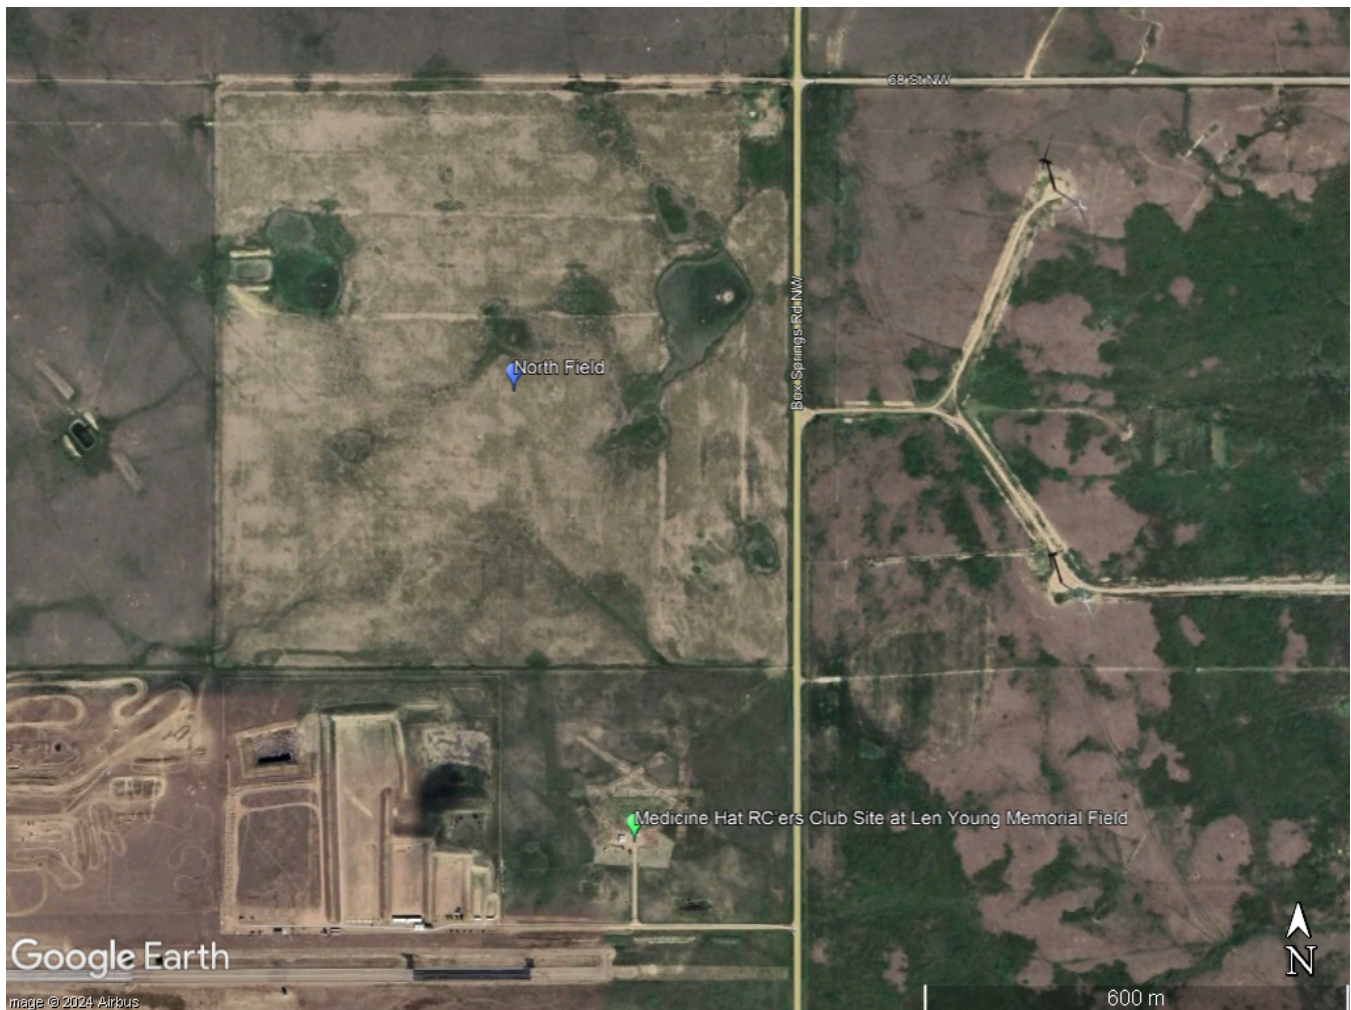

Figure 1: Map of Medicine Hat RC'ers Club Site at Len Young Memorial Field and the adjacent field
- Both Tasks will be conducted at the Medicine Hat RC'ers Club Site at Len Young Memorial Field and over the adjacent field to the north (shown on Map in Figure 1). Bidders note: expect the possibility of high winds, such as 10-15kts with gusts to 25kts.